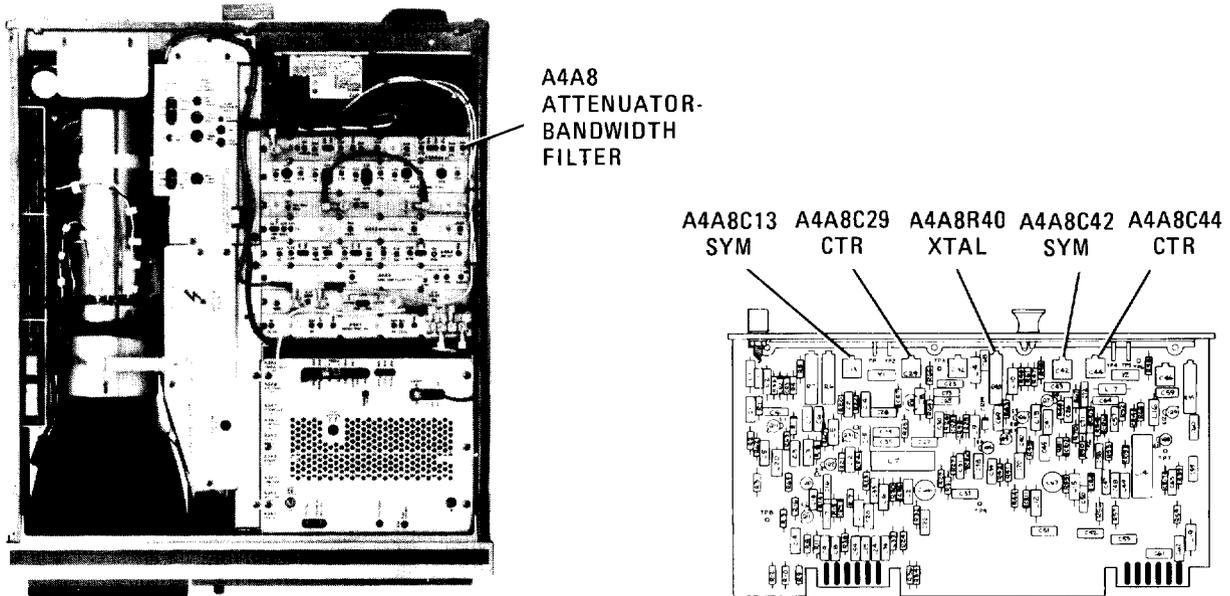

FIGURE 30. LOCATION OF A4A8 21.4 MHz CRYSTAL FILTER ADJUSTMENTS
40. Adjust A4A8C44 CTR to center signal on center graticule line. Adjust A4A8C42 SYM for best symmetry of signal. Refer to Figure 30 for location of adjustments. If unable to adjust A4A8C42 SYM for satisfactory signal symmetry, increase or decrease value of A4A8C43. Refer to Table 3 for range of values.
42. Adjust A4A8C29 CTR to center signal on center graticule line. Adjust A4A8C13 SYM for best symmetry of signal. Refer to Figure 30 for location of adjustments. If unable to adjust A4A8C13 SYM for satisfactory signal symmetry, increase or decrease value of A4A8C14. Refer to Table 3 for range of values.
47. Adjust A4A8R40 XTAL to align markers on display. MARKER Δ level should indicate 1.00 X. Refer to Figure 30 for location of adjustment.